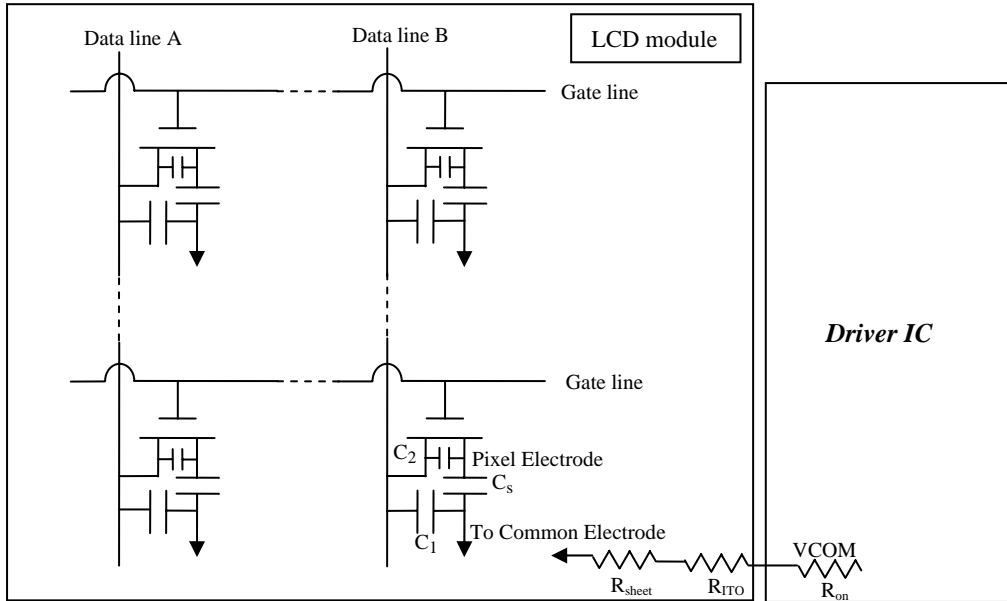

Fig 1: Equivalent circuit of LCD module (Cs on common) & Driver IC
- Driver IC VCOM pin output resistance on VCOMH/VCOML level output ( $R_{on}$  in Fig 1)
- Parasitic capacitance between VCOM & Source ( $C_1$  in Fig 1)
- Parasitic capacitance between pixel electrode & Source ( $C_2$  in Fig 1)
- Resistance of ITO layout of VCOM & Source ( $R_{sheet}, R_{ITO}$  in Fig 1)
- This distortion is caused by capacitive coupling between the data-lines (Source) and common sheet electrode (VCOM) through a parasitic capacitor ( $C_1$  in Fig 1) in TFT LCD.
- Vertical Crosstalk is mainly caused by the parasitic capacitance between the column or data line and the liquid-crystal pixel electrode. ( $C_2$  in Fig 1)